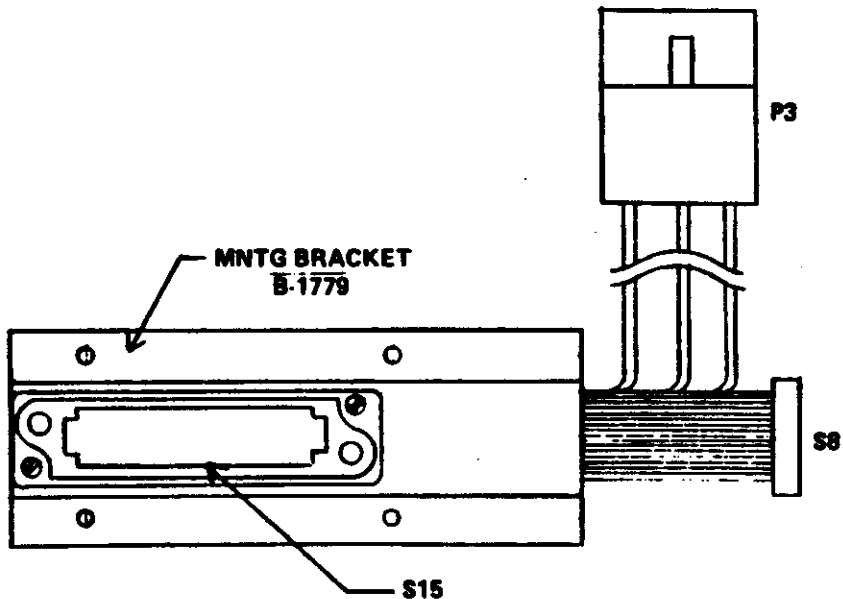

Figure 9 - Cable Assembly to Ventilation Unit
4. Cable assembly to ventilation unit. (Figure 9)